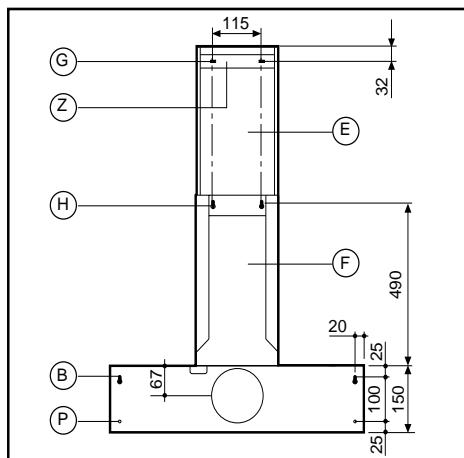

Fig.2
Make 4 holes (B-P) according to the measurements indicated in fig. 2. For the various assembly operations, use screws and anchors suitable for the type of wall (eg., concrete, plasterboard, etc.)
Hang the hood on the wall using the two holes (B) fig. 2.
Make four holes (G-H) according to the measurements indicated in fig. 2
Secure the bracket (Z) to the wall fig. 2
Hang the pipe fitting (F) using the 2 holes (H) fig. 2
Unter Beachtung der auf den Abbildungen 2 und 3 angegebenen Werte 4 Bohrungen (B – P) ausführen Abb.2.